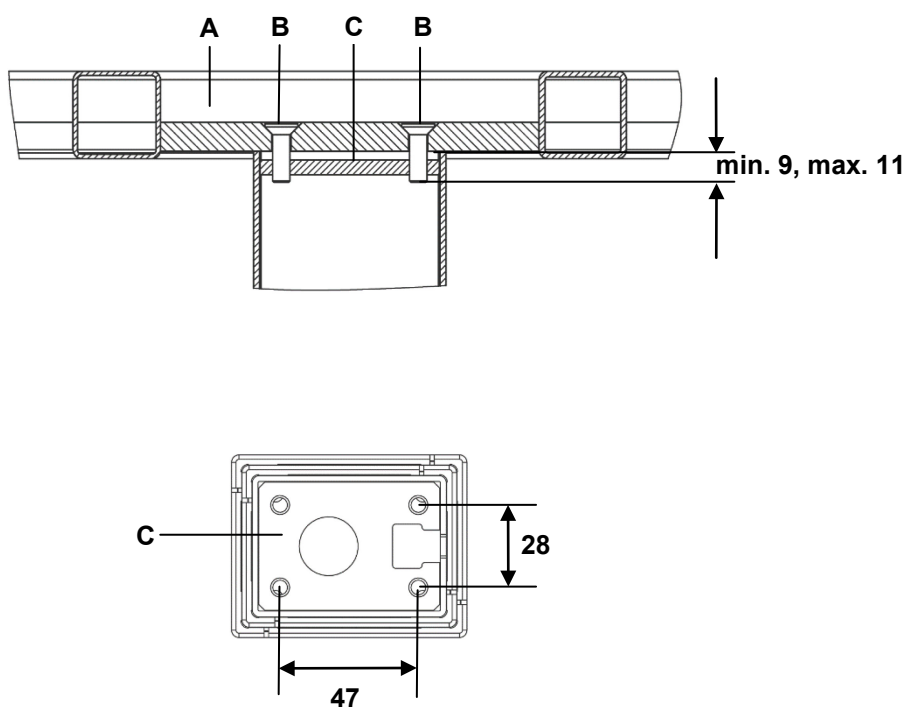
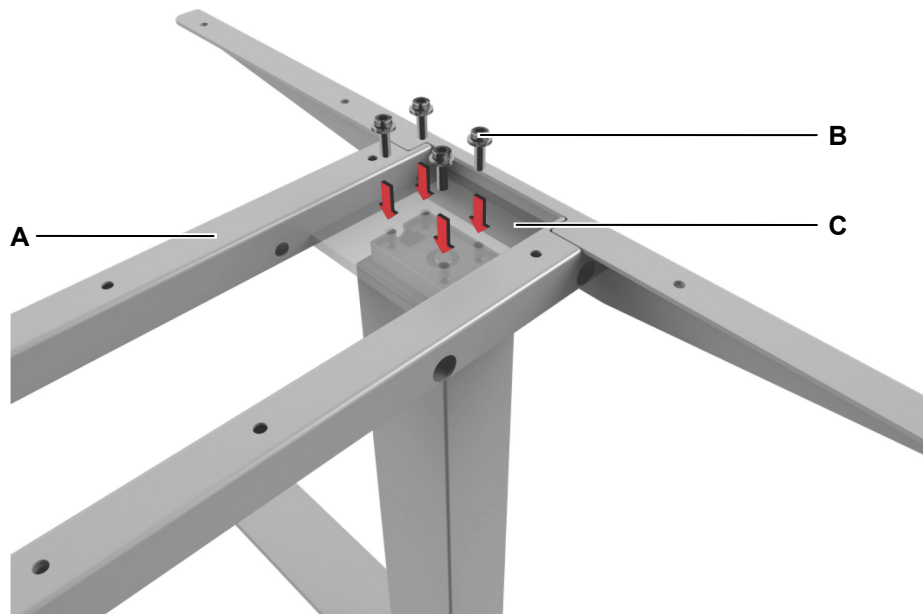

Figure 19 Mounting the table frame (dimensions in mm)
Figure 20 Mounting the table frame
- Use M6 bolts (with suitable length and strength grade 8.8), as shown in Figure 19. The tightening torque is 10 Nm.
- 1 Set the table frame so that the holes are over the lifting column. Use four screws to attach the table frame to the head end of the ID21 lifting column, as shown in Figure 20 (tightening torque is 10 Nm). The mounting dimensions are shown in Figure 19.